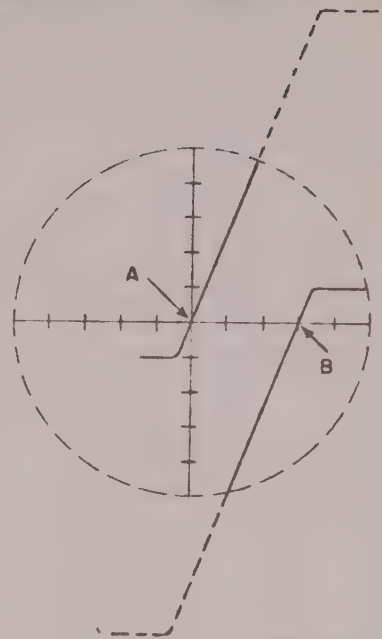

Figure 2-11. Rise-Time Measurement
2. Using the X and Y POSITION controls, adjust the display vertically so that the start of the waveform rests 1 centimeter below the scale horizontal center line and the rising portion of the waveform intersects the zero point on the scale (labeled A in Figure 2-11). Observe that the top of the waveform is off screen. Be careful not to accidentally change the setting of the X POSITION control.
4. Note where the rising portion of the waveform intersects the X axis (labeled B in Figure 2-11).